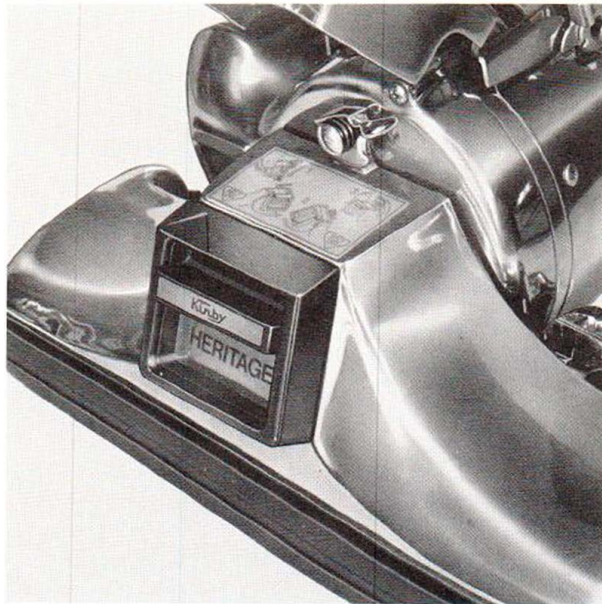

Figure 2-6. Belt lifter in BELT ON position
(5) The lifter hook and lifter must be oriented correctly for proper lifting of the belt. Check the orientation by starting with the lifter bar horizontal and the "Kirby" reading right to left. The recessed arrow should be in the upper left hand corner pointing to the BELT ON mark on the label, as shown in figure 2-6.
(6) Turn the lifter 270° counterclockwise until it is stopped by the housing stop rivet. The "Kirby" on the label should read from top to bottom. The arrow should be pointing to the